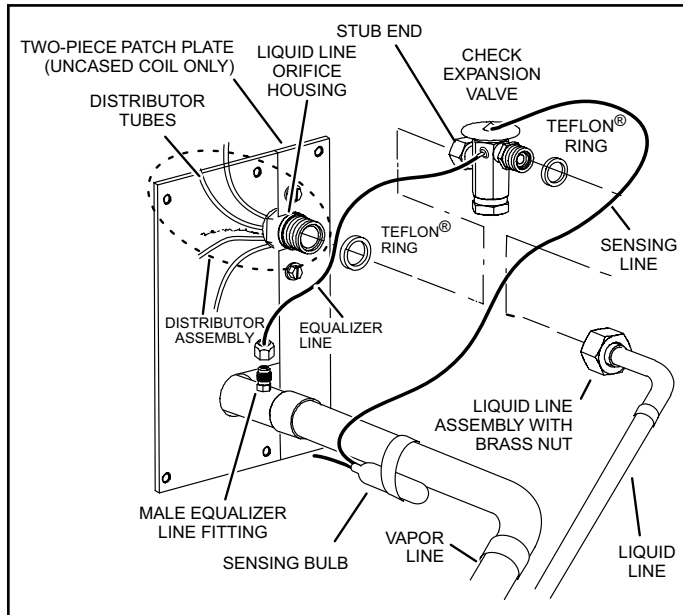

Figure 4. Remove Existing Expansion Valve (uncased coil shown)
7. Remove and discard check expansion valve and the two Teflon® rings (see Figure 4).